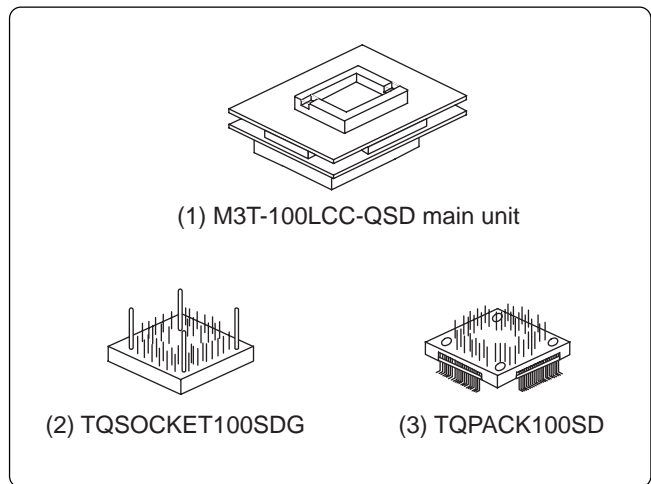

Figure 1 Package component of the M3T-100LCC-QSD
2. Package Components (See Figure 1)